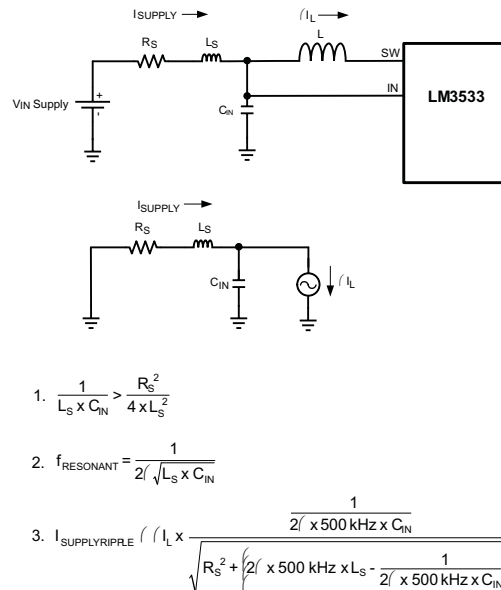

Figure 54. Input RLC Network
- Figure 54 shows the series RLC circuit formed from the output impedance of the supply and the input capacitor.